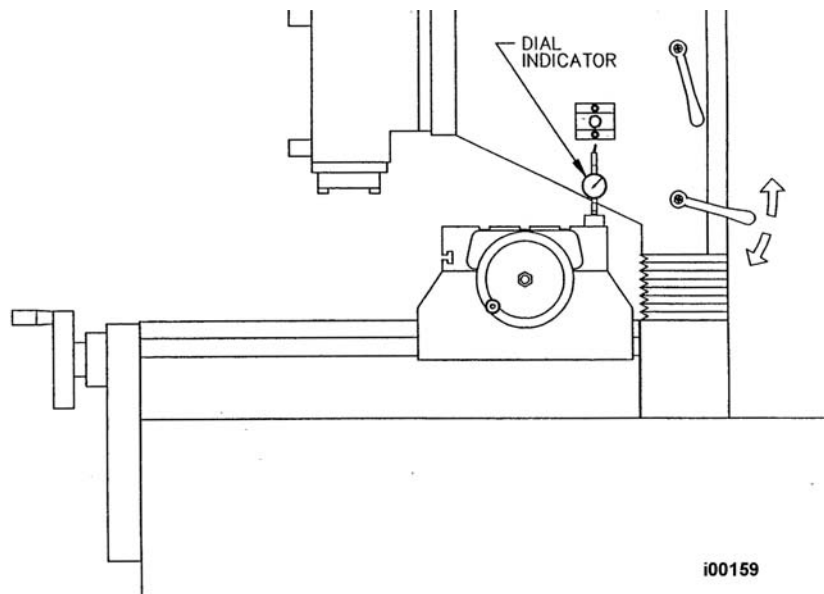

Figure 5-43 Ram Side Gib Adjustment
2. Attach a .0001 dial indicator with a magnetic base towards the rear of the table on the right side of the ram. Place the indicator stylus on the ram in line and below the lower mounting bolt for the coolant hose connector block. (See Figure 5-43).